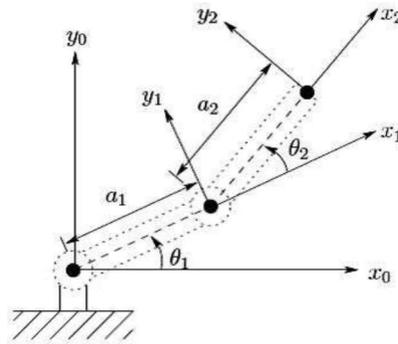

Figure 2
2. Consider the two-link planar arm of Figure 2. The joint axes z_0 and z_1 are normal to the page. The established base frame x_0, y_0, z_0 is as shown. The origin is chosen at the point of intersection of the z_0 axis with the page and the direction of the x_0 axis is completely arbitrary. Once the base frame is established, the x_1, y_1, z_1 frame is fixed as shown by the DH convention, where the origin, o_1 has been located at the intersection of z_1 and the page. The final frame x_2, y_2, z_2 is fixed by choosing the origin, o_2 at the end of link 2 as shown. Write the DH parameters and its corresponding transformation matrices.